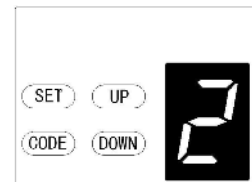

Fig.14
- 14.2 Momentarily press the "UP" button until "2" is displayed on the LED screen (Fig.14)